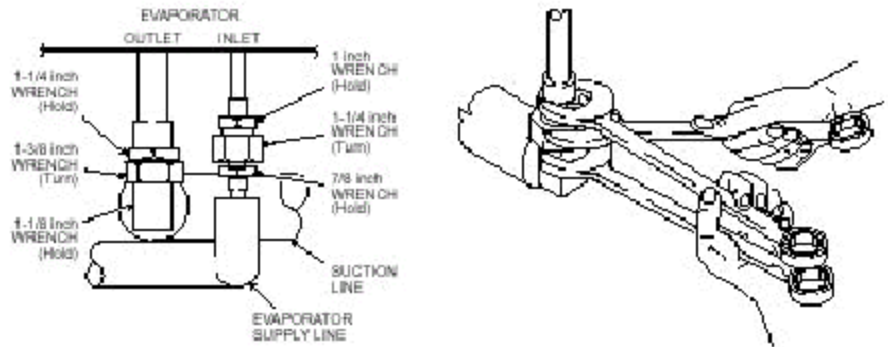

Figure 4
3. Remove insulating tape from the two evaporator fittings. Using three SAE open-end wrenches (top to bottom, 1, 1-1/4, and 7/8 inch) so that the two stationary fittings and connected tubing will not be twisted as the Rotalock® nut turns, disconnect the evaporator supply line from the evaporator fitting (see figure 4). Plug the end of both the supply line and the evaporator intake to seal them (to minimize moisture contamination).